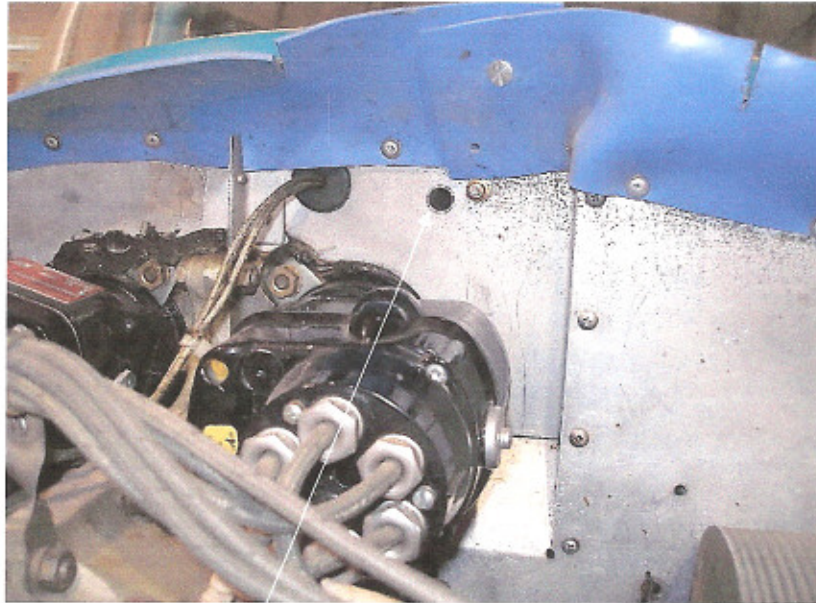

Figure 1
1. Drill a 0.5 inch hole in the baffle at the left edge of the crankcase and just below the baffle seal. De-burr edges and clean area using best shop practice. (Figure 1)